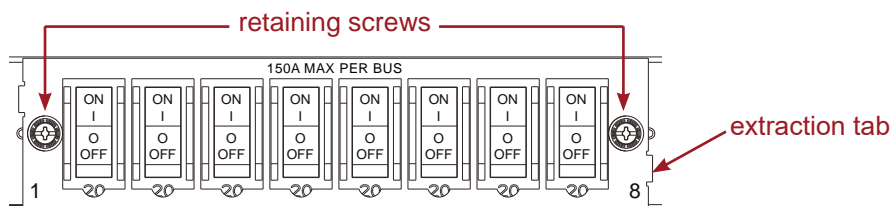

Figure 9. Cover plate removal
12.1 Removing the cover plate. To remove the cover plate under the two knurled retaining screws and pull forward. See figure 9 below.